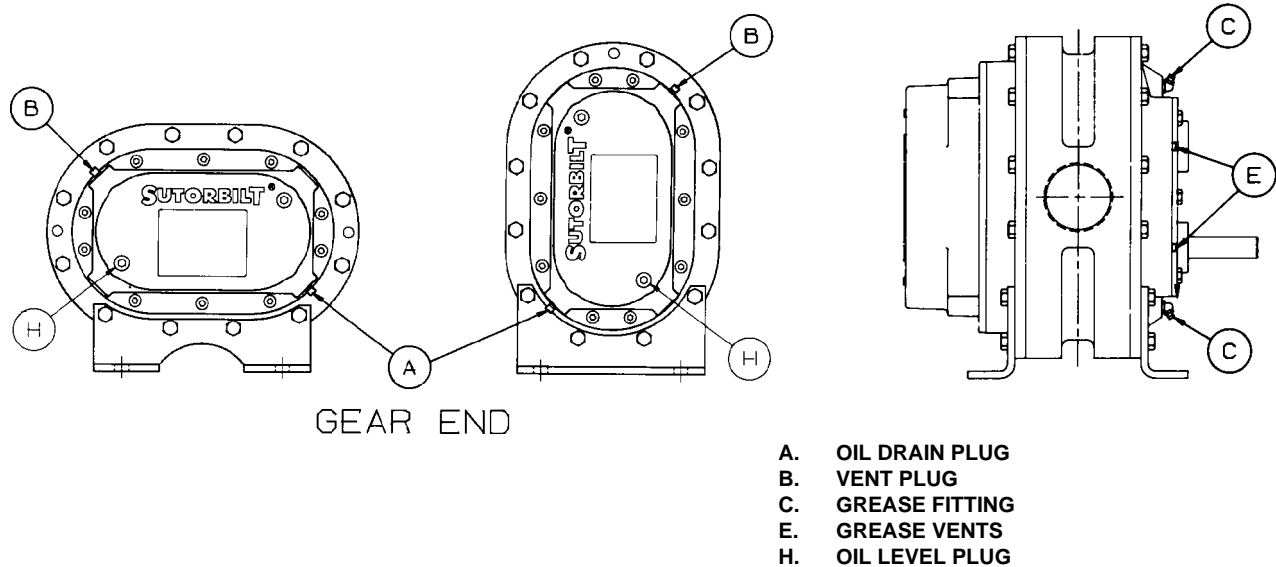

FIGURE 3 – LUBRICATION
**When changing mounting configuration, it may be necessary to reposition vent plug (B), and drain plug (A). Refer to FIGURE 3, page 6, for correct location.**
Refer to FIGURE 3. Remove the oil level plug (H) and the square head vented oil fill plug (B) from the gear cover. Add oil to the gear case until oil drips out of the oil level hole (H). Secure plugs in their correct location.